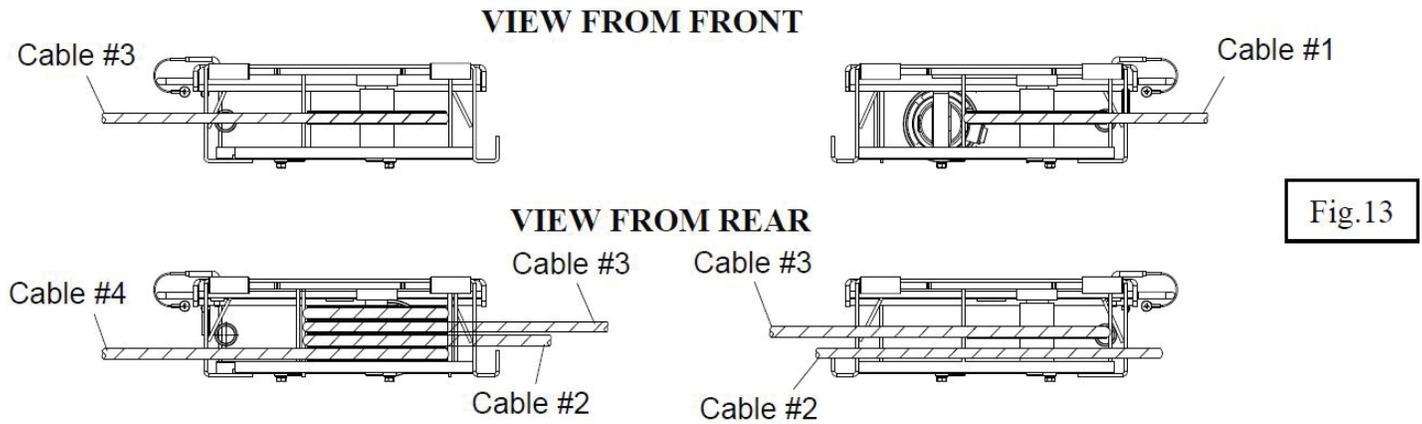
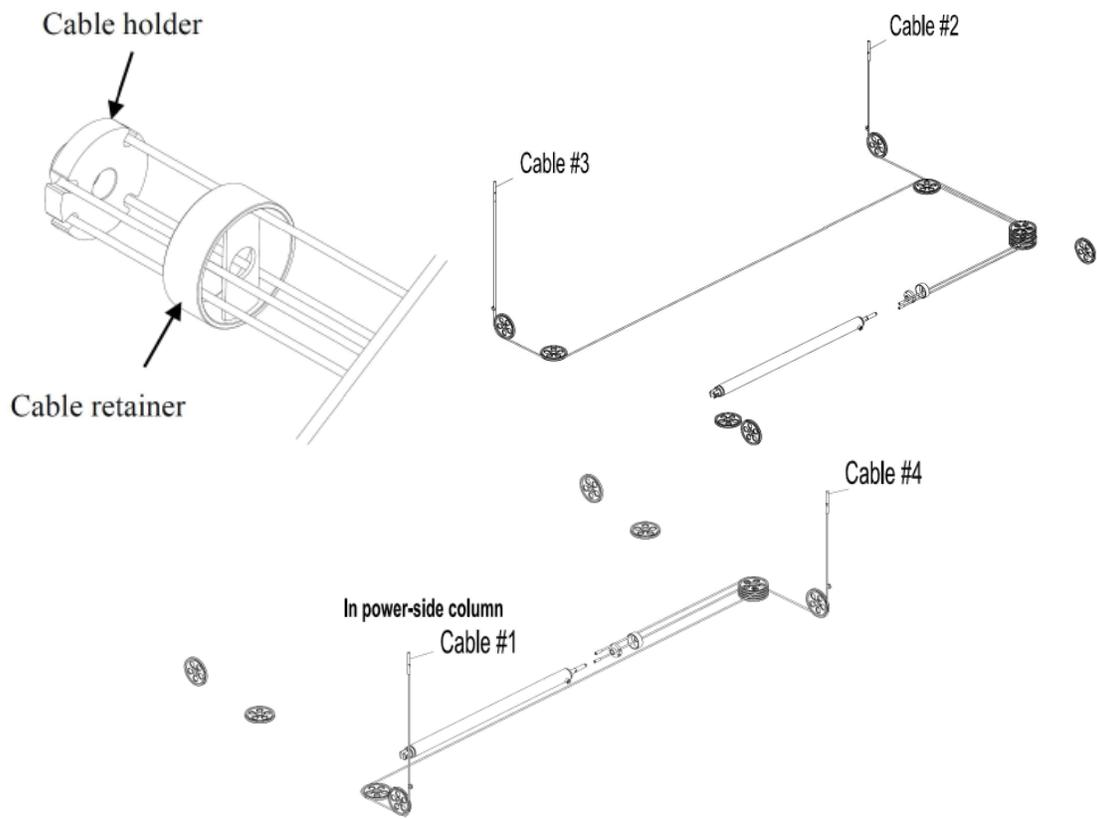

Fig.13
Figure 14 – Cable Routing Diagram
- Route the cable ends through the beam openings as shown in fig.13 and fig.14. Make sure that the cables are not twisted and routed on the correct pulleys in runways. Make sure to route the cables through the retainer before attaching them to the holder. Do not assemble the cable pulleys in the beam ends at this time.
Make sure each cable is routed in the pulley groove following the roping diagram fig. 14. Failure to install the nylon bearings and bearings in the runways and beams will result in premature failure and void the warranty.